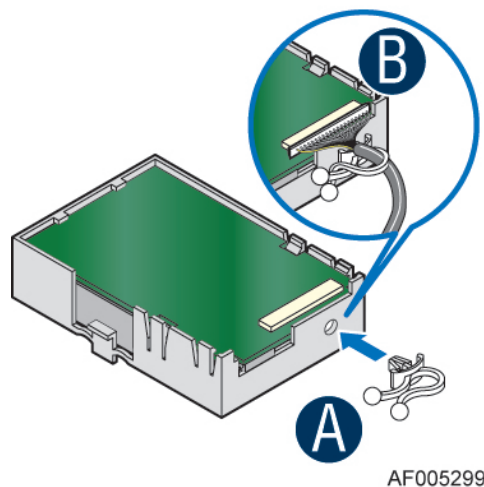

Figure 4. Installing the Cable Twist Tie
5. Secure the cable at 26-pin end with a provided Cable Twist Tie as shown in Figure 4.